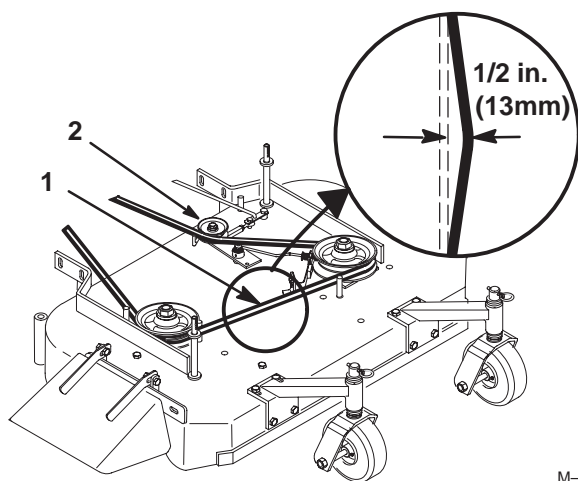

Figure 47
3. Remove mower belt (Fig. 47).
7. Install the mower belt (Fig. 47).
3. Remove idler pulley and then remove worn belt (Fig. 47).
Note: Proper belt tension is 10–15 lbs. with the belt deflected a 1/2 in. (13mm) halfway between pulleys (Fig. 47).